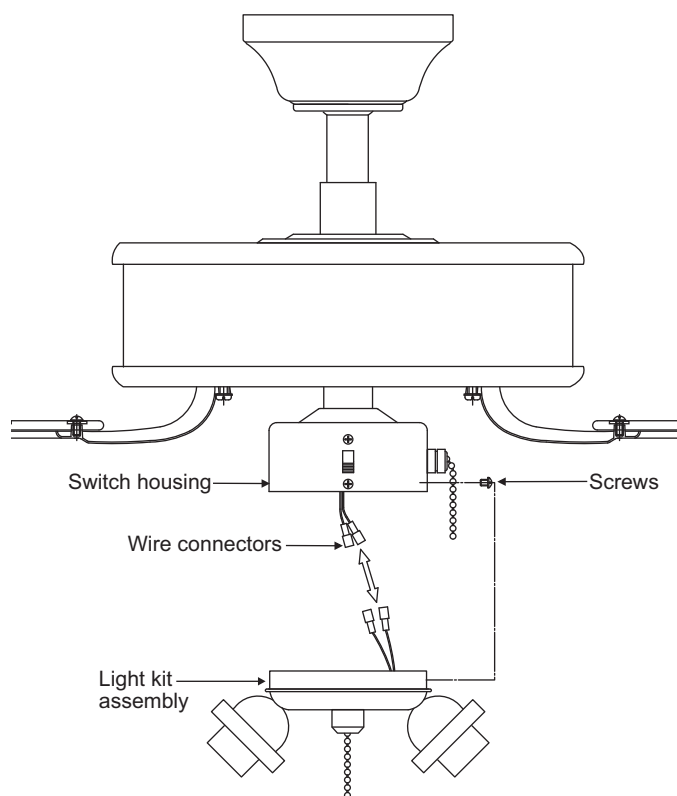

Figure 18
**Step 2.** Carefully push all wires back into the switch housing. Attach the light kit fitter by aligning its keyhole slots with the three screws holes and reversing switch on the side of switch housing. Tighten the three screws securely to prevent the light kit from vibrating loose. (Fig. 18)